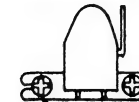

Fig. 2
<p>How to check the main P.C.B.</p> <p>• When checking the soldered surfaces of main P.C.B. and replacing the parts, do as show.</p> <p>1. Remove the 10 screws (①, ③, ⑦ ~ ⑭) in above figure. 2. Remove the 6 screws (⑮ ~ ⑳). 3. Remove the front panel in the direction of the arrow ④.</p>